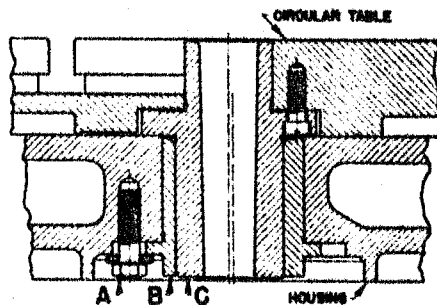

Figure 52B
4. Loosen the two hex head screws "A" from the bottom of the housing. (Figure 52B)